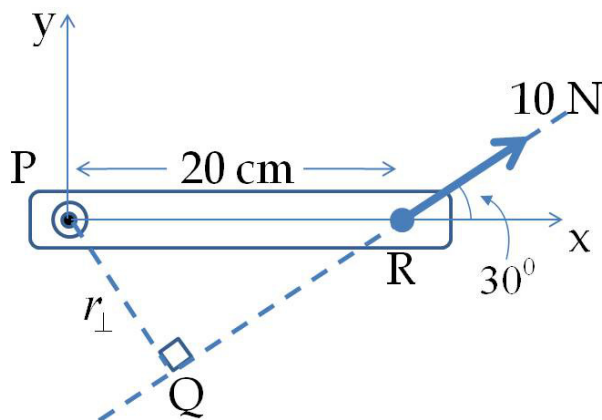

Figure 5.36: Example 5.5.5
**Solution.** To find the lever arm of the force about point  $P$ , we extend the line of force so that a perpendicular line from  $P$  on the line of force can be drawn. The extended line and the perpendicular are shown in Fig. 5.36.